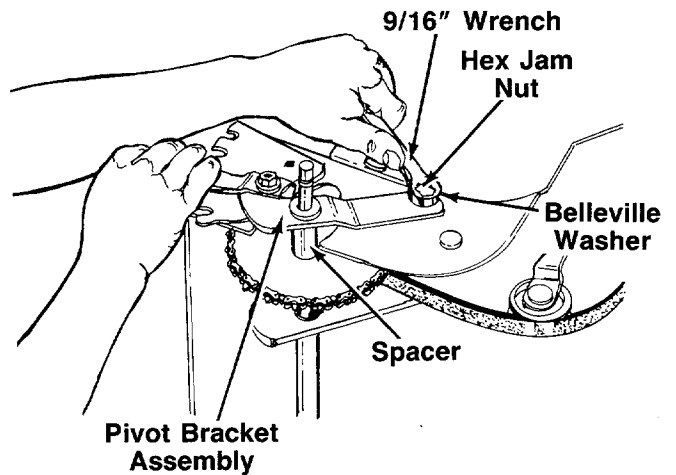

FIGURE 19.
7. Remove the pivot bracket assembly. A 9/16" wrench is required. Remove the hex jam nut and belleville washer as shown in figure 19.
8. Lift off the pivot bracket assembly and spacer. See figure 19.